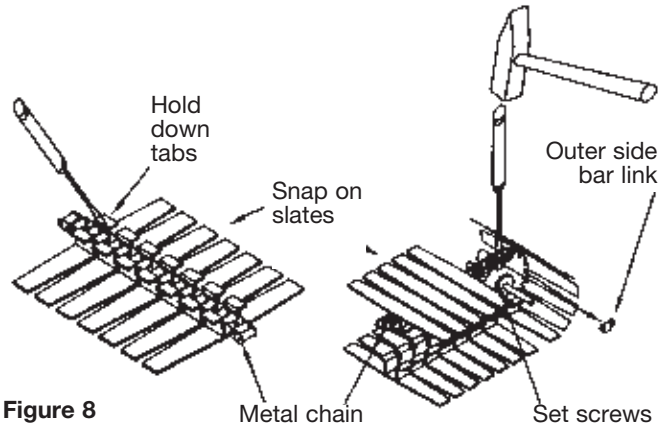

Figure 8
Remove links as required to shorten the 5.3. carrier chain. First remove three (3) or more plastic snap-on slats, then pry off the outer side bar links with a wide blade screwdriver, above a sprocket as shown (See Fig. 8). Drive the plastic slats into place above a sprocket with a mallet to reassemble the S.S. carrier chain and the links.